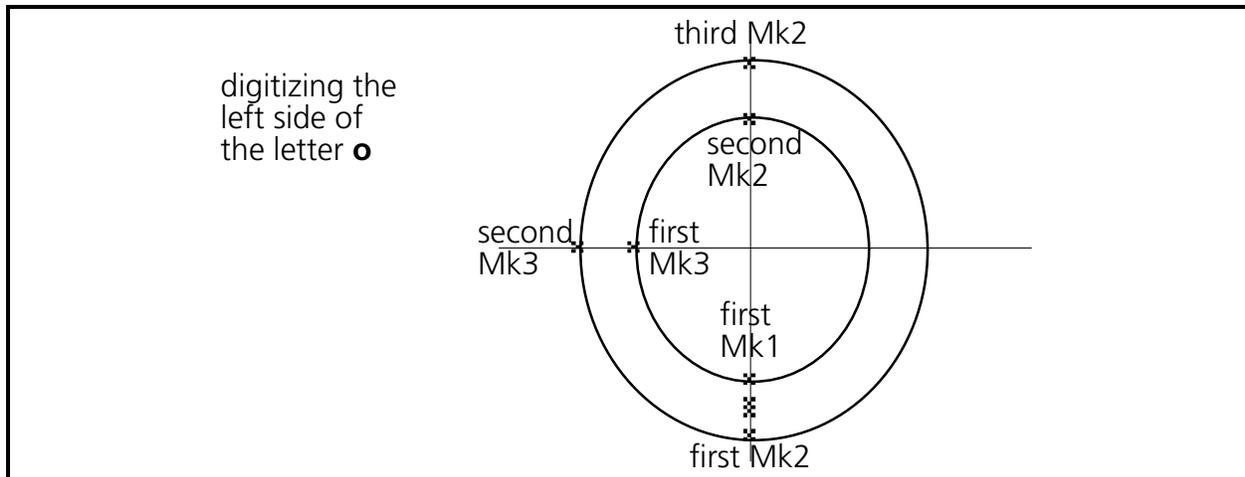

Figure 6-46
1. At the bottom middle of the inside circle of the letter **o** enter the first Mk1 (see Figure 6-46).
2. Enter the first Mk2 at the bottom of the outside circle of the letter (see Figure 6-46).
3. Enter your first Mk3 for defining the curvature of the inside line of the left arc directly on the inside boundary of the **o**, 90 degrees away as plotted in Figure 6-46.
4. Enter the second Mk3 for defining the curvature of the outside line of the left arc directly on the outside boundary of the **o**, 90 degrees away as plotted in Figure 6-46).
5. Enter the second Mk2 defining the end of the inside of the column directly at top of the inside circle of the letter (see Figure 6-46).
6. Enter the third Mk2 to define the end of the outside of the column directly at the top of the outside circle of the letter (see Figure 6-46).